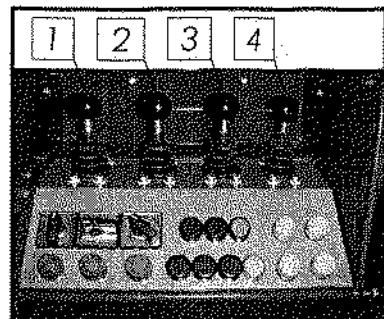

Figure 7-6. Control levers
7.4.1 Control levers (figure 7-6)